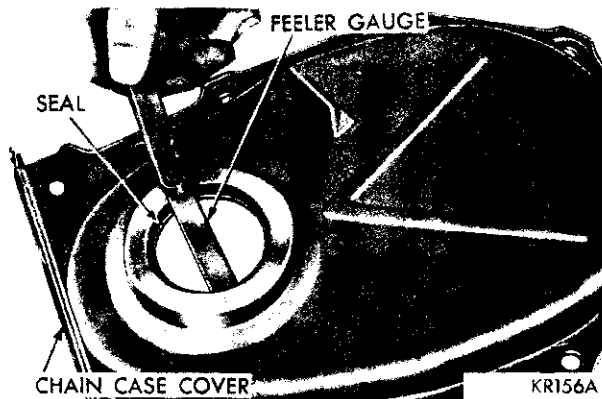

Fig. 23—Inspecting Seal for Proper Seating
(9) The seal is properly installed when the neoprene is tight against face of cover. Try to insert a .0015 inch feeler gauge between the neoprene and the cover (Fig. 23). If the seal is installed properly, feeler gauge cannot be inserted. **Do not over compress neoprene.**